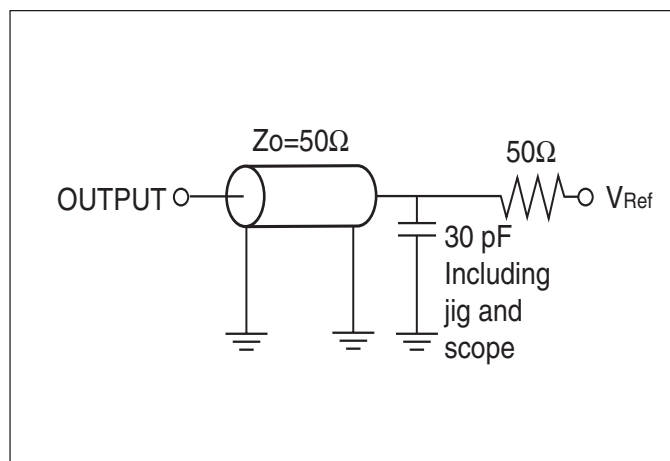

Figure 1a.
| Output Load                                                        | See Figures 1a and 1b   | See Figures 1a and 1b     |
1. Test conditions assume signal transition times of 1.5 ns or less, timing reference levels of 1.25V, input pulse levels of 0V to VDD V and output loading specified in Figure 1a.
1. Test conditions for IS61WV6416BLL assume signal transition times of 1.5ns or less, timing reference levels of 1.25V, input pulse levels of 0V to VDD V and output loading specified in Figure 1a.